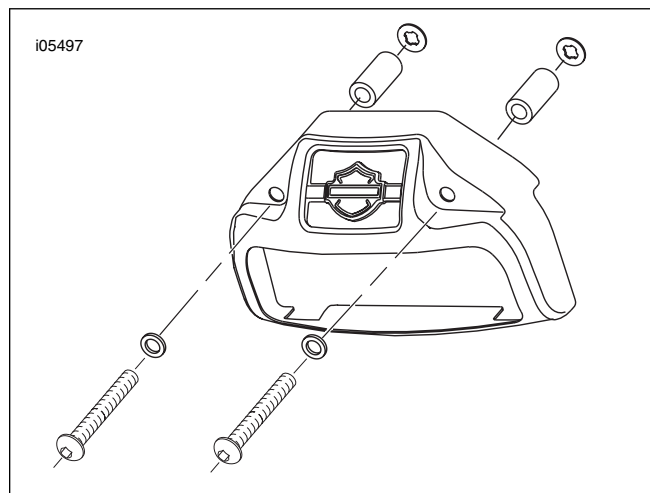

Figure 1. Dyna Glide P&A Voltage Regulator Cover Kit (Part No. 74593-04)
*The cover assembly consists of two button head screws, two chrome plated washers, the voltage regulator cover, two zinc spacers, and two nylon retaining washers. See Figure 1.*